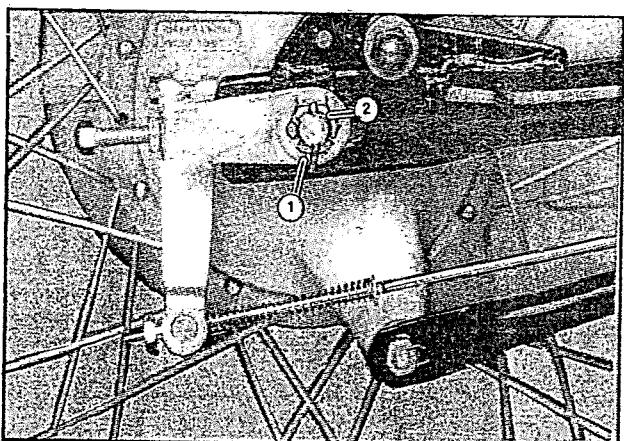

Fig 6.52
- Remove the split pin and remove the axle nut, (1) (fig 6.52)
- Remove the brake panel after removing the torque link nut (2) and brake adjusting nut (3) (fig 6.52)